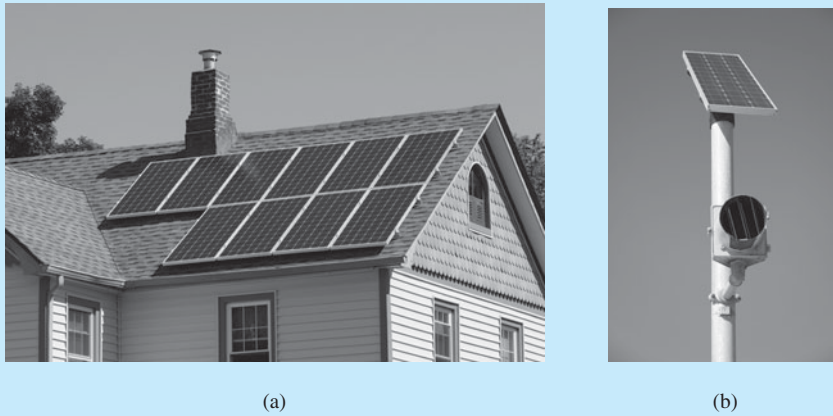

FIGURE 3.20 Sample applications of solar cells. (Used with permission from © Martin Shields/Alamy and (b) Sebastien Burel/Shutterstock.com.)
The sunlight can be directly converted to electricity using solar cells. Solar cells are also called photovoltaic (PV) cells. Solar cells were first developed in the 1950s for the U.S. space satellites. Recently, they have become more widely used in daily life. As shown in Figure 3.20, solar cells can be used in homes for lights and appliances. The energy captured by these sources can be stored in batteries to power a lamp or an emergency roadside wireless telephone when no telephone wires are around (see Figure 3.20). They can also be used in vehicles to directly power electric motors.